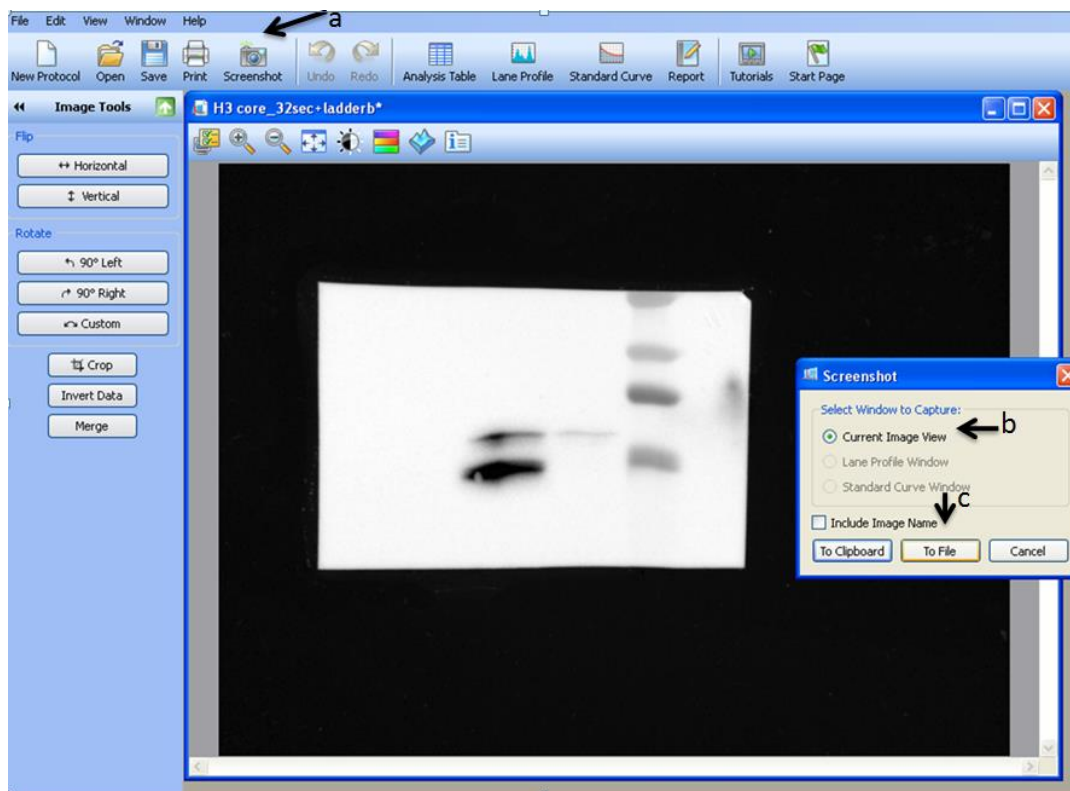

Figure 28
8.2.14. Save the merged image as a screenshot (Figure 28). Click on the 'Screenshot' icon. A window will pop up, prompting the user to which image to save. Select 'Current Image View' (b). Ensure the merged image is the image in the current view window of the software. Click on 'To File' to save the image to a file (c)